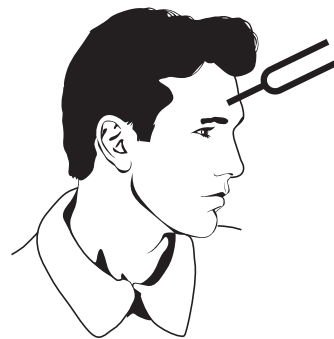

Figure 4.
2. Hold the fork to the middle of the subject's head as shown in Figure 4.